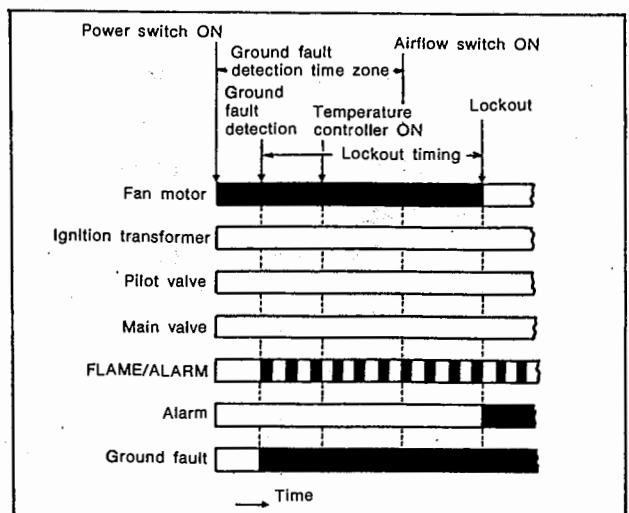

Fig. 14
5. Operation when a Ground Fault was Detected (See Fig. 14)